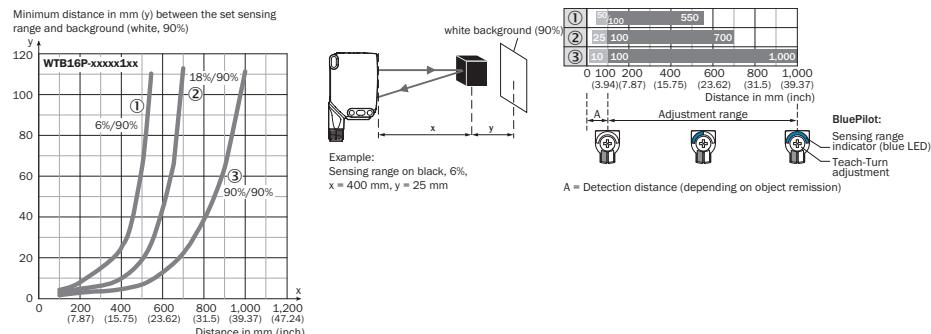

Figure 3: Characteristic line 1, WTB16P-xxxx1xx, red light
The minimum distance (= y) for the background suppression can be determined from the diagram [figure 3 ①] as follows: